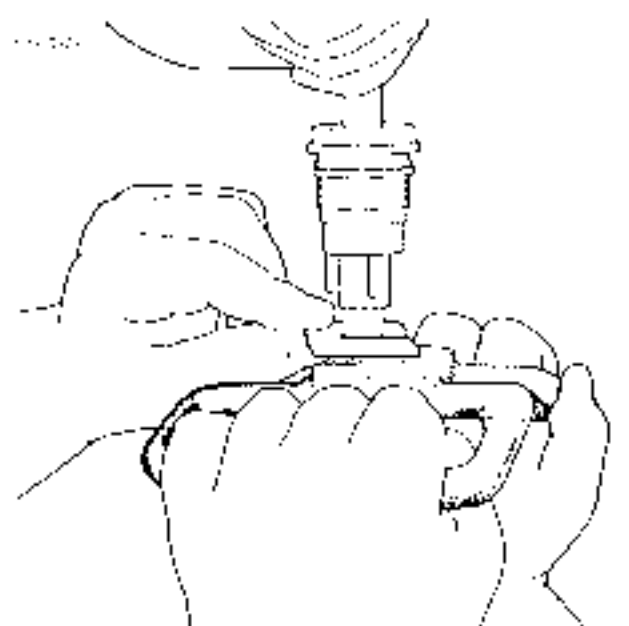

Figure 2-88. Compressing Fork Spring
3. Push down the fork cap (5) from the fork tube and allow the fork leg to drop, exposing the spring.
4. See Figure 2-88. Set the FORK SPRING COMPRESSION TOOL (Part No. HD-41549-A) on the spring collar. Turn screws in to engage holes in collar. Compress the spring until the SPRING PLATE TOOL (Part No. HD-41351) can be positioned between the spacer and the spring collar.